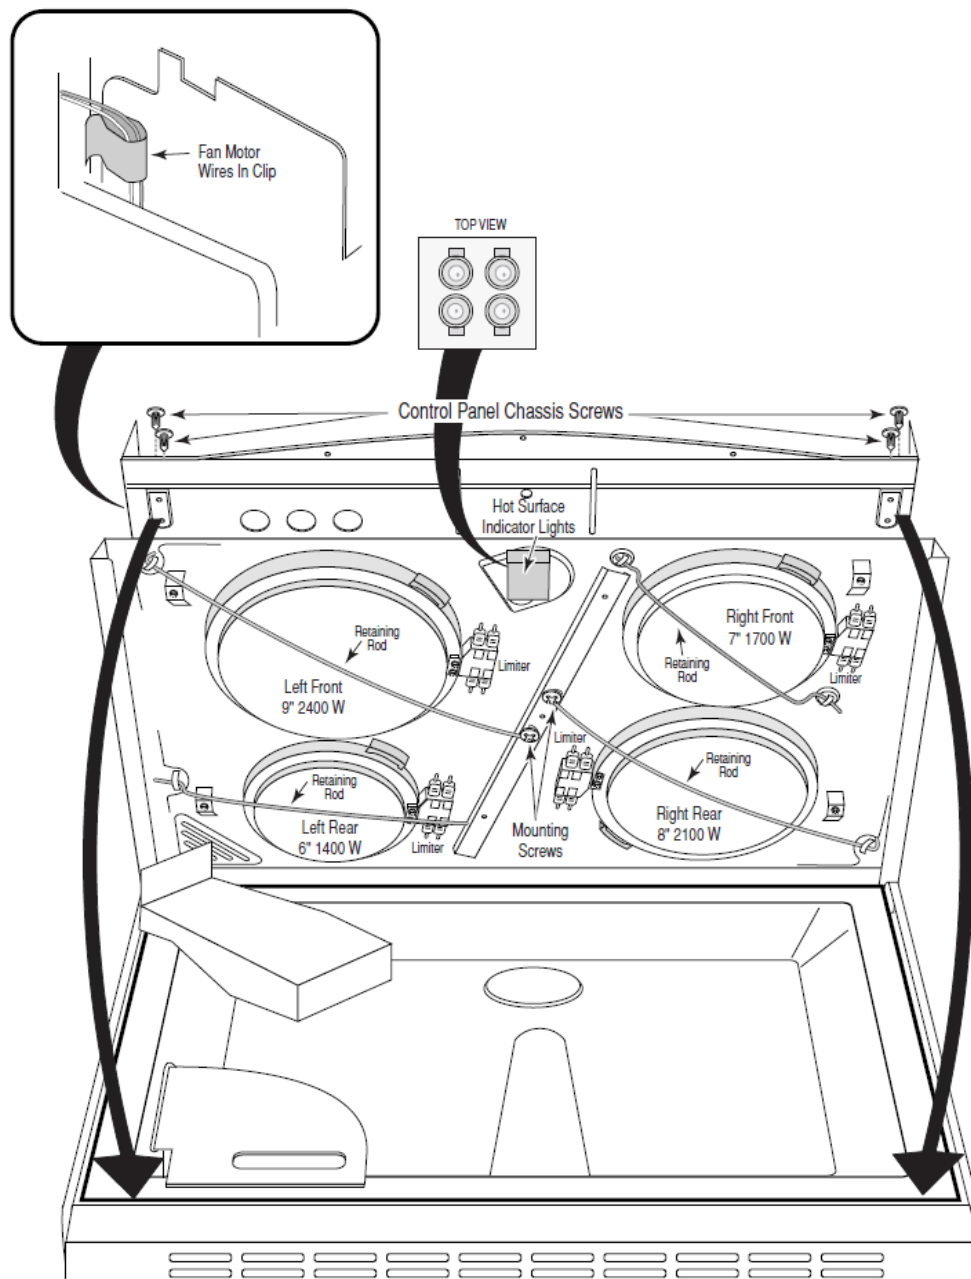

Figure 4-7
2. Remove the control panel and rotate it back on top of the maintop so it is out of the way (see page 4-2 for the removal procedure). NOTE: You do not have to remove the electronic oven control from the panel. Refer to Figure 4-7 for the following steps.